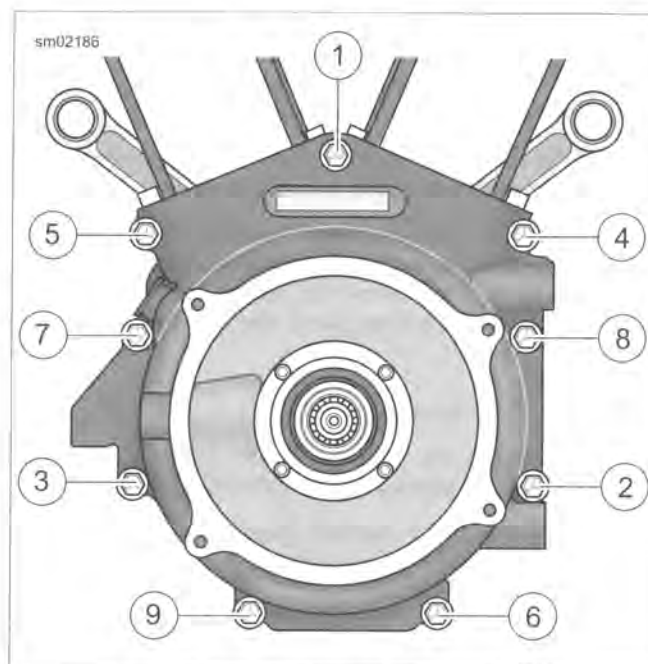

Figure 3-138. Tightening Crankcase Bolts
9. See Figure 3-138. Start the nine crankcase bolts and tighten in the following sequence.